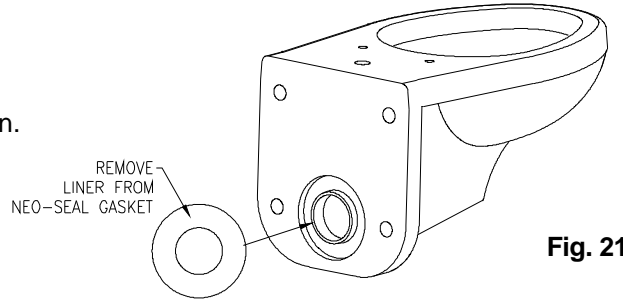

Fig. 21
21. Peel off the removable backing from one-side of the Neo-Seal Gasket and seat into the groove of the water closet outlet horn. See Fig. 21